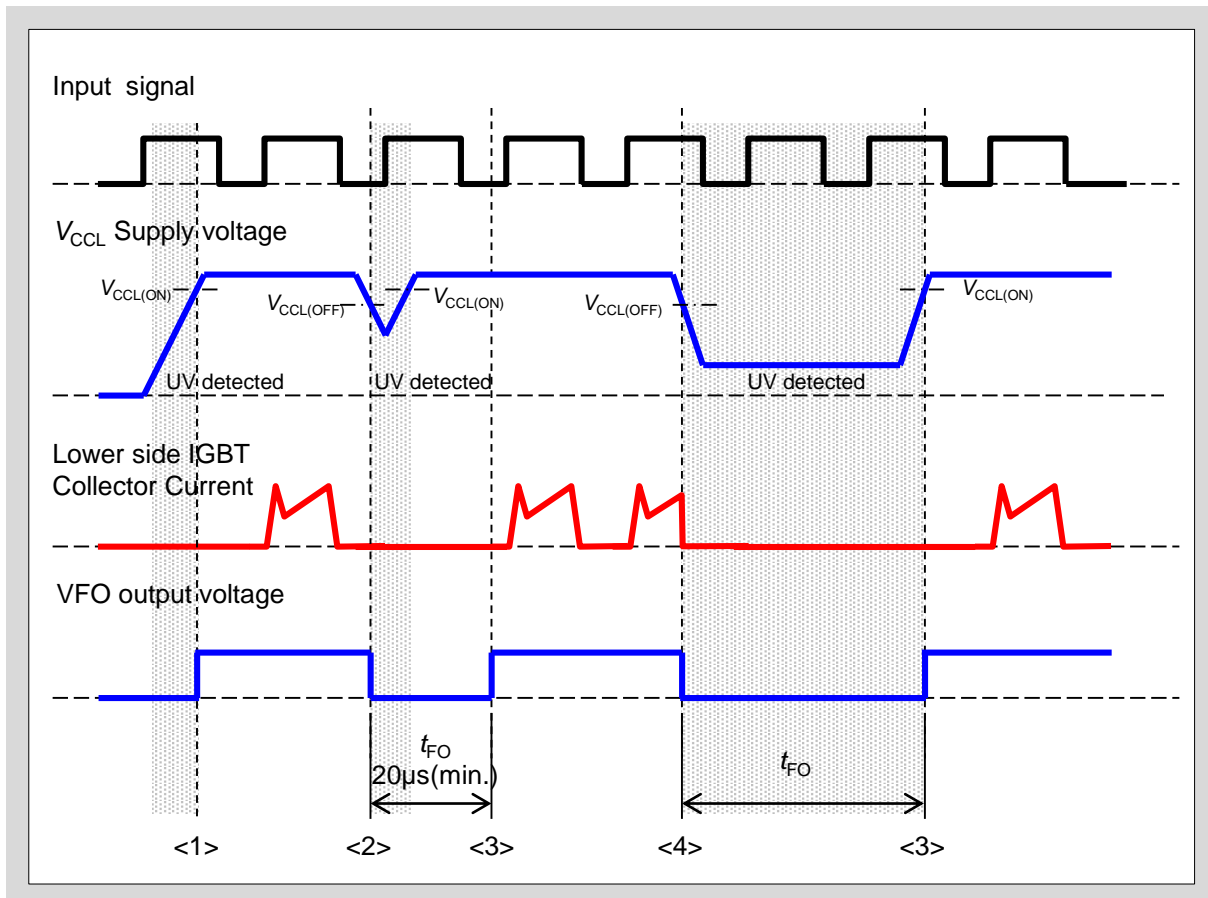
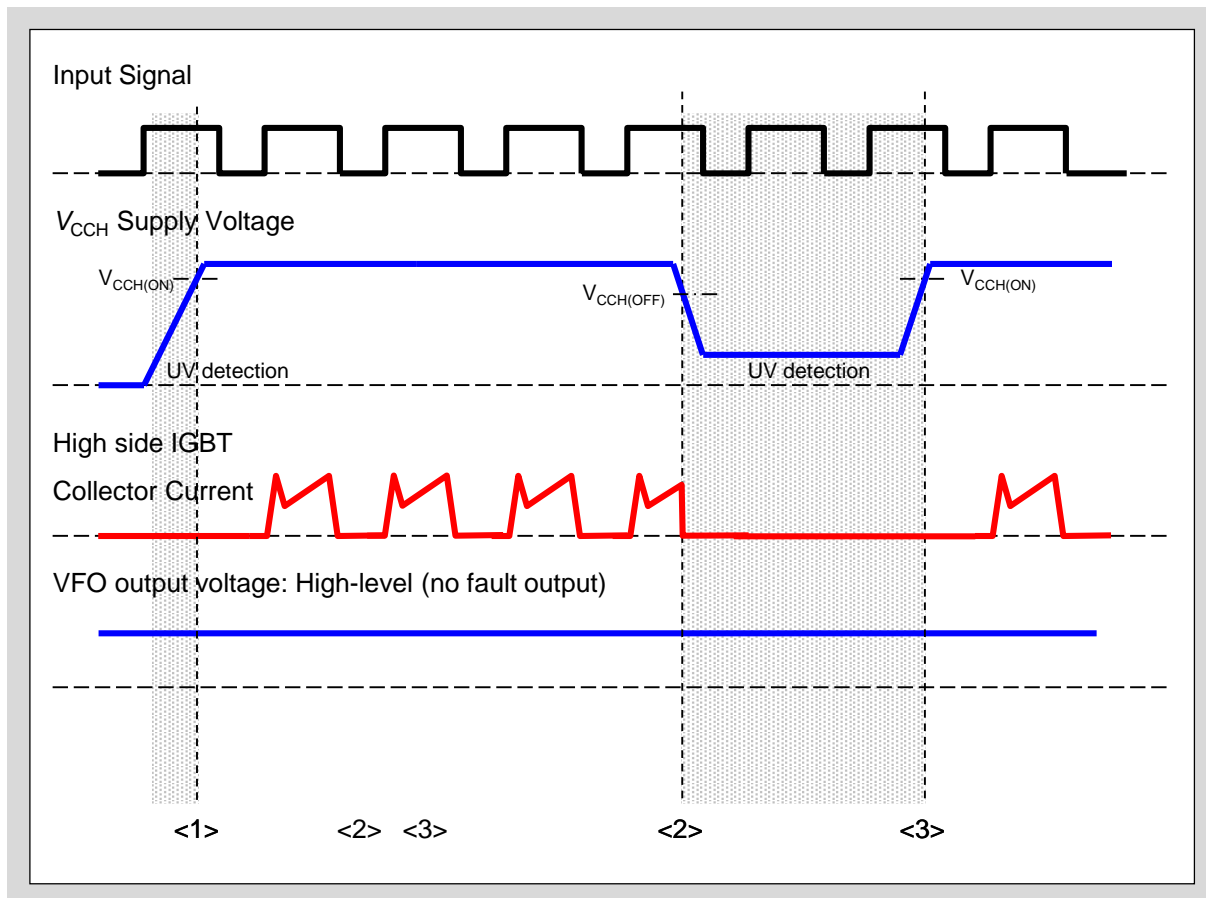

Fig.3-2 Operation sequence of V_{CCL} Under Voltage protection (lower side arm)
Fig.3-3 Operation sequence of V_{CCH} Under Voltage protection (high side)
- Fig.3-2 and Fig.3-3 shows the operation sequence of UV operation of V_{CCH} and V_{CCL} .